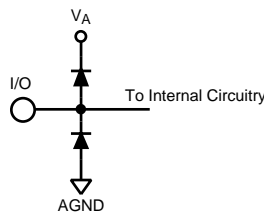

Figure 2.
- (1) The inputs are protected as shown below. Input voltage magnitudes above V_A or below GND will not damage this device, provided current is limited per Note 4 of the Absolute Maximum Ratings Table. However, errors in the A/D conversion can occur if the input goes above 2.6V or below GND as described in the Operating Ratings section. See Figure 2.
- (2) With a full scale differential input of $2V_{P-P}$, the 14-bit LSB is $122.1\ \mu\text{V}$.
- (3) Typical figures are at $T_A = 25^\circ\text{C}$ and represent most likely parametric norms at the time of product characterization. The typical specifications are not ensured.
- (4) Parameters specified in dBFS indicate the value that would be attained with a full-scale input signal.
- The inputs are protected as shown below. Input voltage magnitudes above V_A or below GND will not damage this device, provided current is limited per Note 4 of the Absolute Maximum Ratings Table. However, errors in the A/D conversion can occur if the input goes above 2.6V or below GND as described in the Operating Ratings section. See Figure 2.
- (2) With a full scale differential input of $2V_{P-P}$, the 14-bit LSB is 122.1 μV .
- (3) Typical figures are at $T_A = 25^\circ C$ and represent most likely parametric norms at the time of product characterization. The typical specifications are not ensured.
- (4) This parameter is ensured by design and/or characterization and is not tested in production.
- (5) I_{DR} is the current consumed by the switching of the output drivers and is primarily determined by load capacitance on the output pins, the supply voltage, V_{DR} , and the rate at which the outputs are switching (which is signal dependent). $I_{DR} = V_{DR}(C_0 \times f_0 + C_1 \times f_1 + \dots + C_{13} \times f_{13})$ where V_{DR} is the output driver power supply voltage, C_n is total capacitance on the output pin, and f_n is the average frequency at which that pin is toggling.